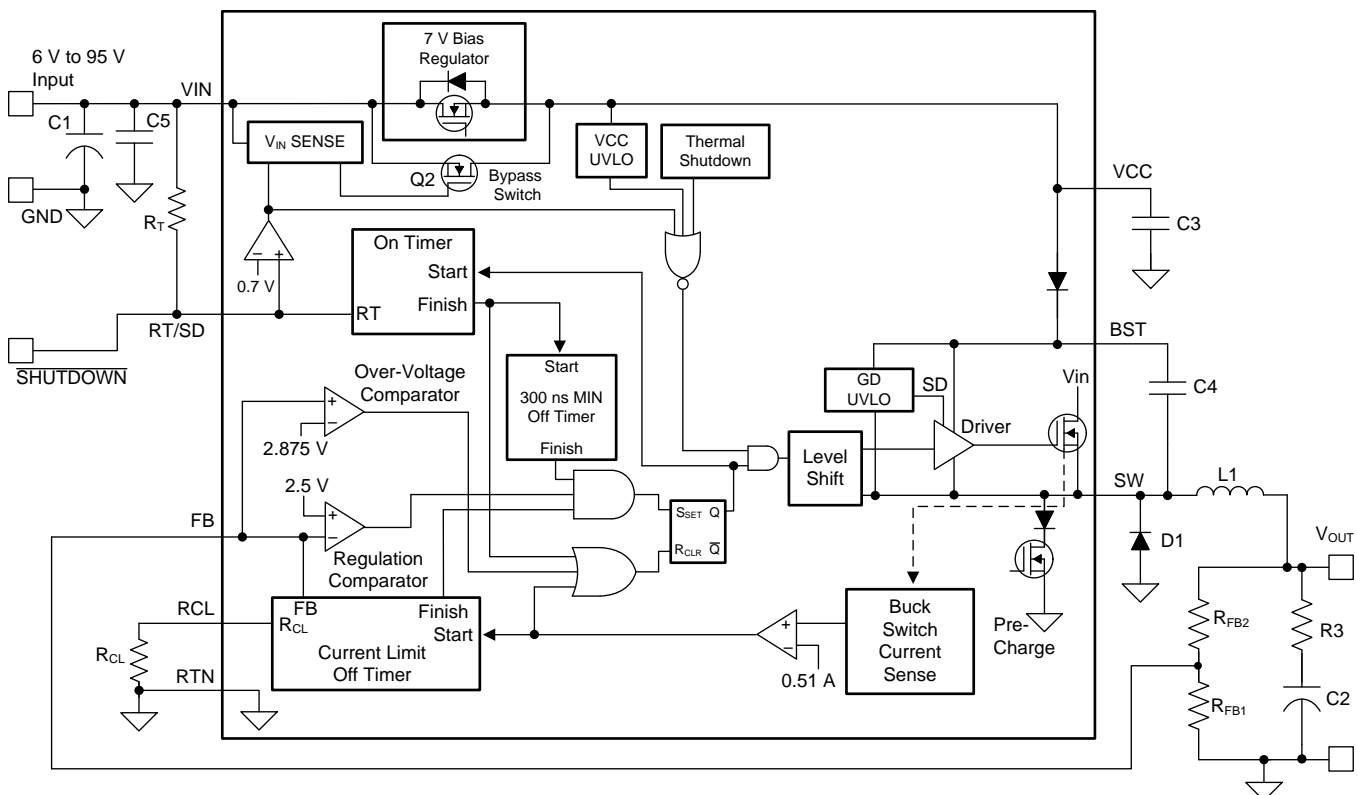

Figure 50. Functional Block Diagram
The output voltage ( $V_{OUT}$ ) is programmed by two external resistors as shown in Figure 50. The regulation point can be calculated with Equation 7.
The LM5008A regulates the output voltage based on ripple voltage at the feedback input, requiring a minimum amount of ESR for the output capacitor C2. A minimum of 25 mV to 50 mV of ripple voltage at the feedback pin (FB) is required for the LM5008A. In cases where the capacitor ESR is too small, additional series resistance may be required (R3 in the Figure 50).
The high voltage bias regulator is integrated within the LM5008A. The input pin ( $V_{IN}$ ) can be connected directly to line voltages between 6 V and 95 V, with transient capability to 100 V. Referring to the Figure 50, when  $V_{IN}$  is between 6 V and the bypass threshold (nominally 8.5 V), the bypass switch (Q2) is on, and  $V_{CC}$  tracks  $V_{IN}$  within 100 mV to 150 mV. The bypass switch on-resistance is approximately 100  $\Omega$ , with inherent current limiting at approximately 100 mA. When  $V_{IN}$  is above the bypass threshold Q2 is turned off, and  $V_{CC}$  is regulated at 7 V. The  $V_{CC}$  regulator output current is limited at approximately 9.2 mA. When the LM5008A is shut down using the RT/SD pin, the  $V_{CC}$  bypass switch is shut off regardless of the voltage at  $V_{IN}$ .